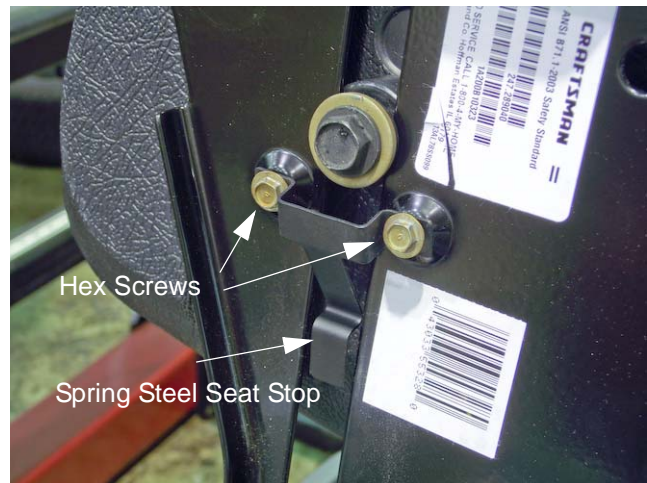

Figure 4.6
2. Remove the two hex screws securing the spring steel seat stop to the pivoting seat bracket. See Figure 4.6.